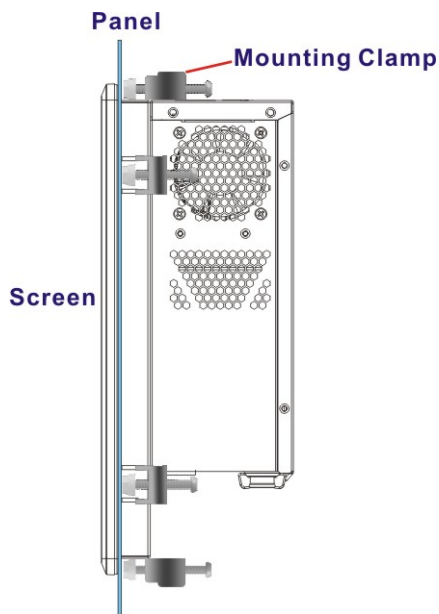

Figure 3-22: Tighten the Mounting Clamp Screws
Step 4: Insert the mounting clamps into the mounting brackets and pre-formed holes along the edges of the front panel, behind the frame (**Figure 3-22**). The required number of mounting clamps may vary by models.
Step 5: Tighten the screws that pass through the mounting clamps until the plastic caps at the front of all the screws are firmly secured to the panel (**Figure 3-22**).